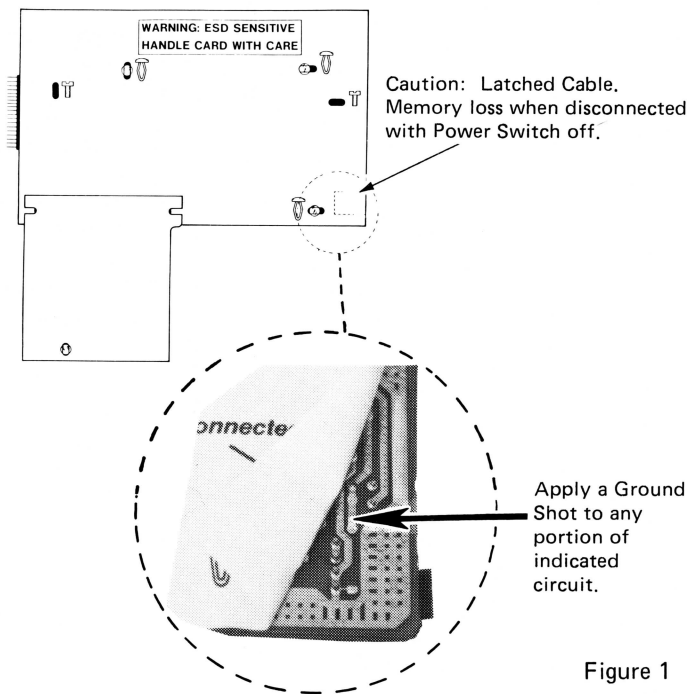

Figure 1
4. Apply a ground as illustrated in Figure 1.